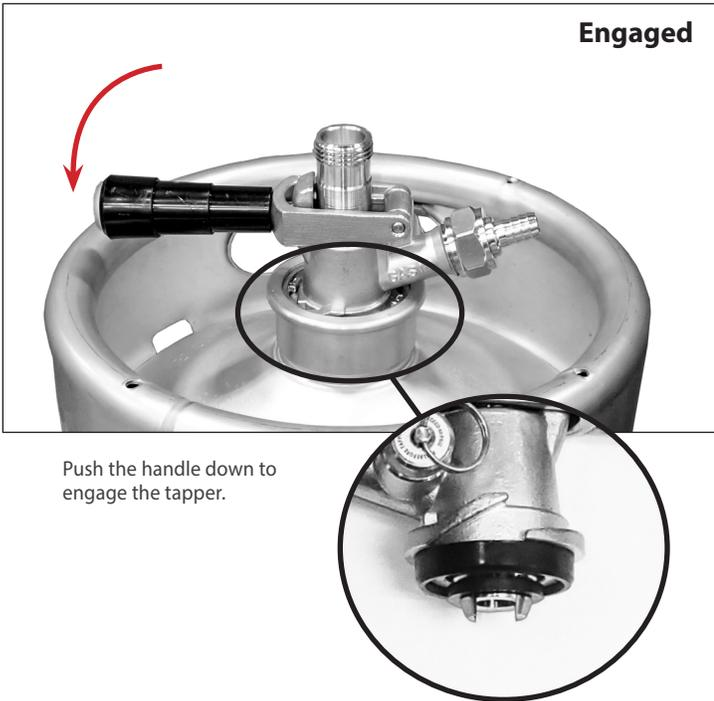

Fig. 12. Engaged tapper vs. disengaged tapper
19. Engage the taper. See fig. 12.